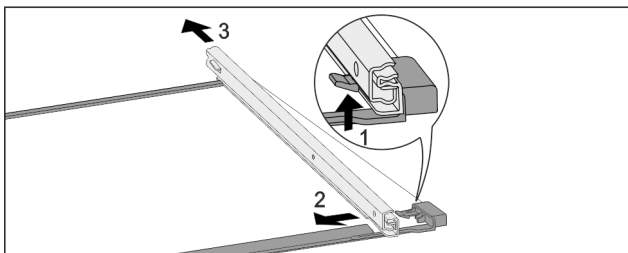

Fig. 175 Glass shelf with rails
- ▶ Push up front click-in hooks. Fig. 175 (1)
- ▶ Move the pull-out rails to the side Fig. 175 (2) and to the rear Fig. 175 (3).